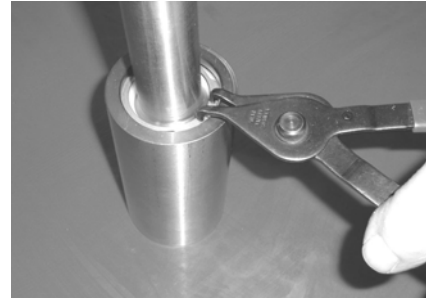

Figure 11-11 Remove Snap Ring from Valve
- Use snap ring pliers to remove the Snap Ring from the Valve as shown in Figure 11-11. Slide the loosened Snap Ring along the Valve Stem away from the Valve.